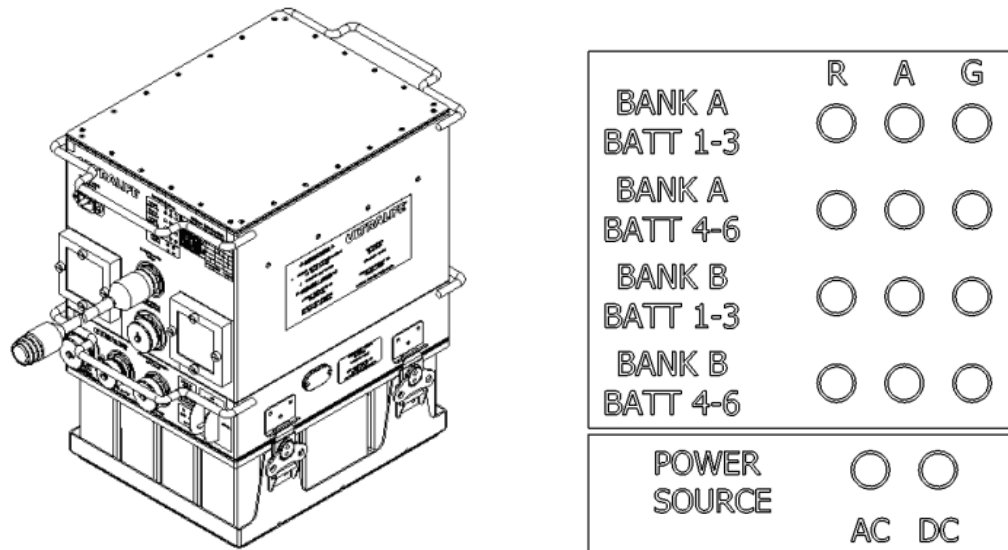

Figure 3-11 LED Display
14. Power the charger by attaching the AC or DC power input cables and applying power. The power source LED should illuminate on the front panel of the charger. See figure 3-11 for overview.